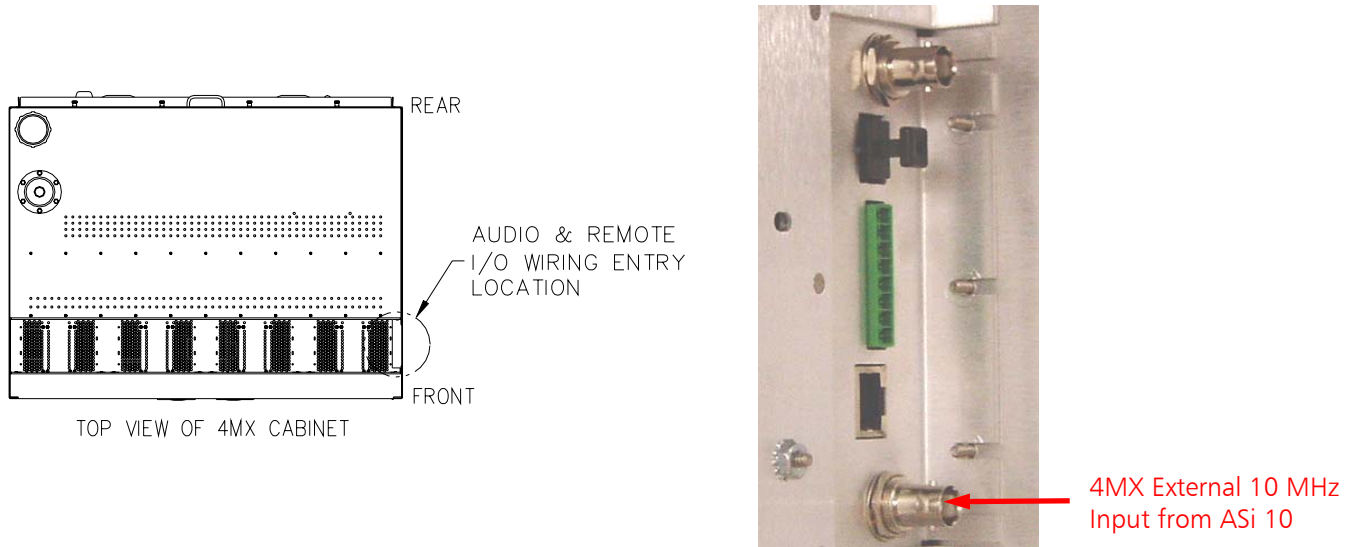

Figure 39 – ASi 10 to 4MX 25/50 Connection
Step 4 – Route the **BNC Coax Cable** (10' long, included in the ASi Installation Kit – identified in Section 7.1 as Item 2) for the **External 10 MHz** down through the top of the transmitter cabinet into the Remote I/O Connection Cavity and connect to the **External 10 MHz Input** as shown below in **Figure 39**.